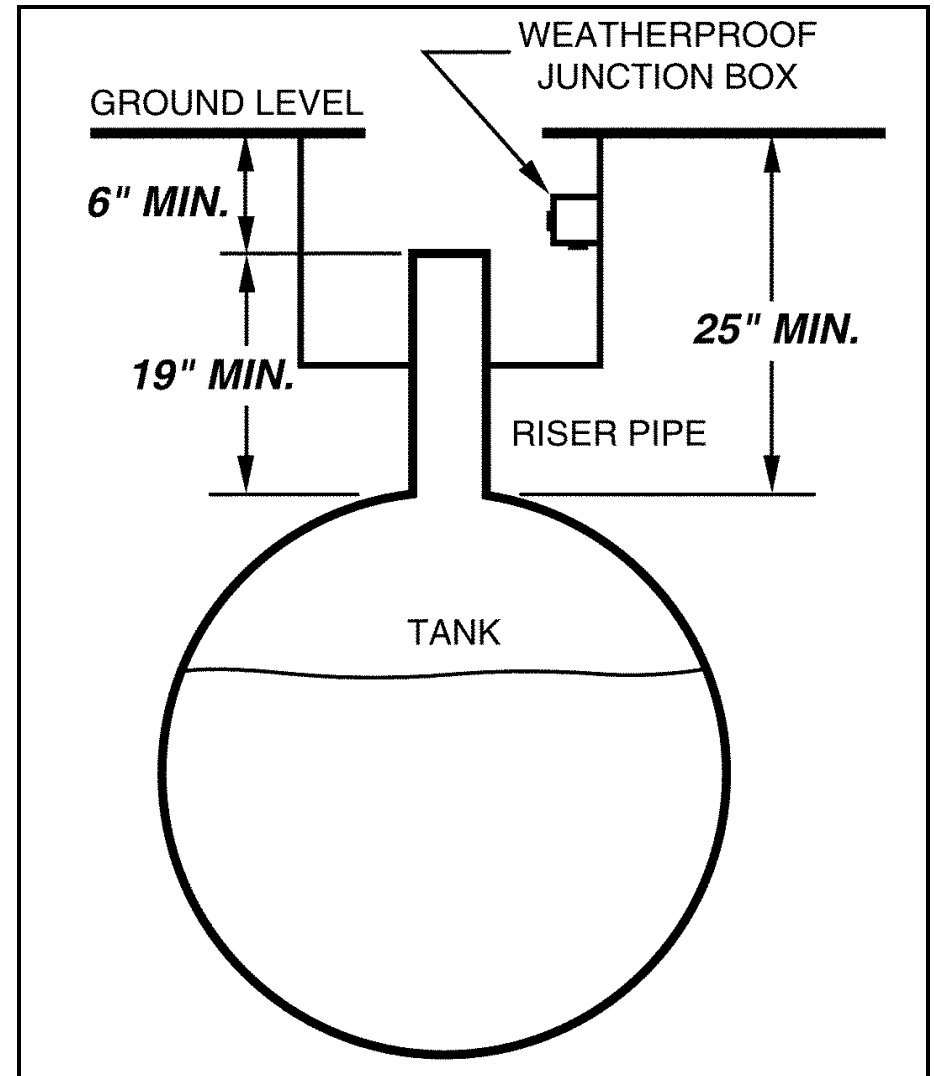

Figure 12 - Underground Tank Preparation
1. Refer to Figure 12. Install a manhole of at least 18" (46 cm) diameter around an unused fitting in the top of the tank. This manhole must be large enough to accommodate a weatherproof junction box.